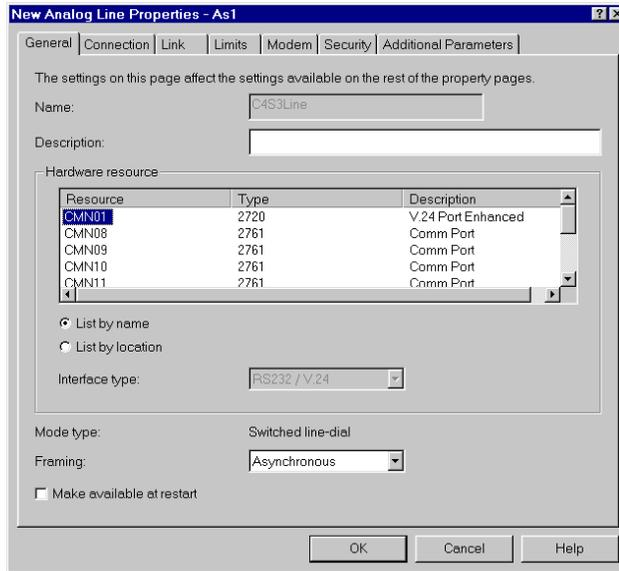

Figure 117. Selecting a resource name for line C4S3
3. Click **New** to create a new link. Complete the New Analog Line Properties pages (Figure 117).